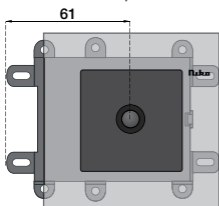

fig.5
b. Flush surround plate + dimensions (fig.5 and 6)